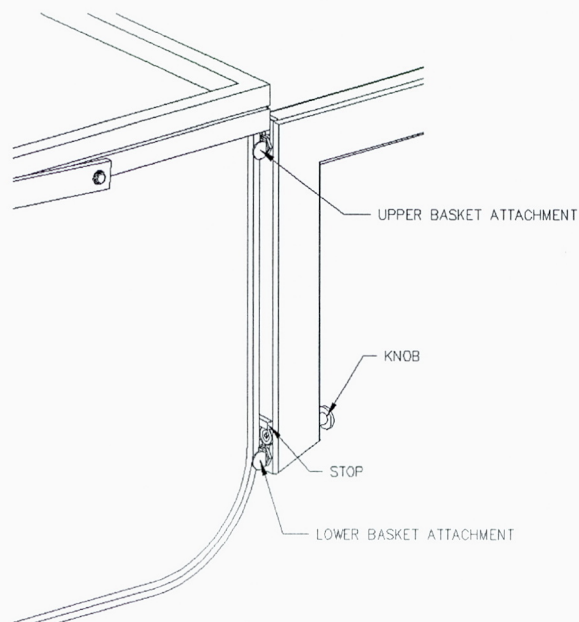

Figure 3 – Basket Attachment
1. Basket Installation - Refer to Figure 3.
2. Basket Removal - Refer to Figure 3.